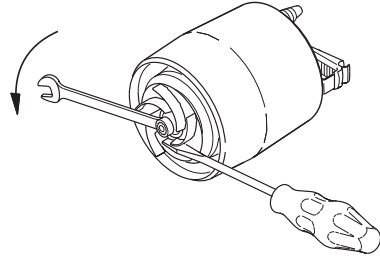

Fig. 10
- Slacken and remove the nut on the motor shaft (13 mm). Prevent the impeller from rotating by means of a screwdriver, see fig. 10.